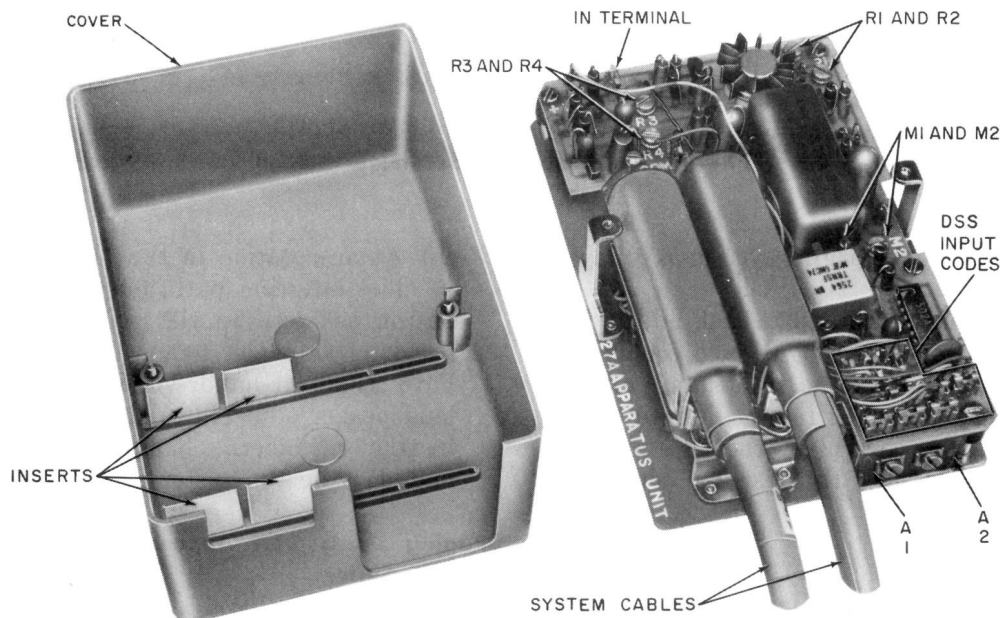

Fig. 28—27A Apparatus Unit
3.40 The 27A apparatus unit (Fig. 28) has terminals for connection to the 4A System and the customer equipment; put it where there is convenient